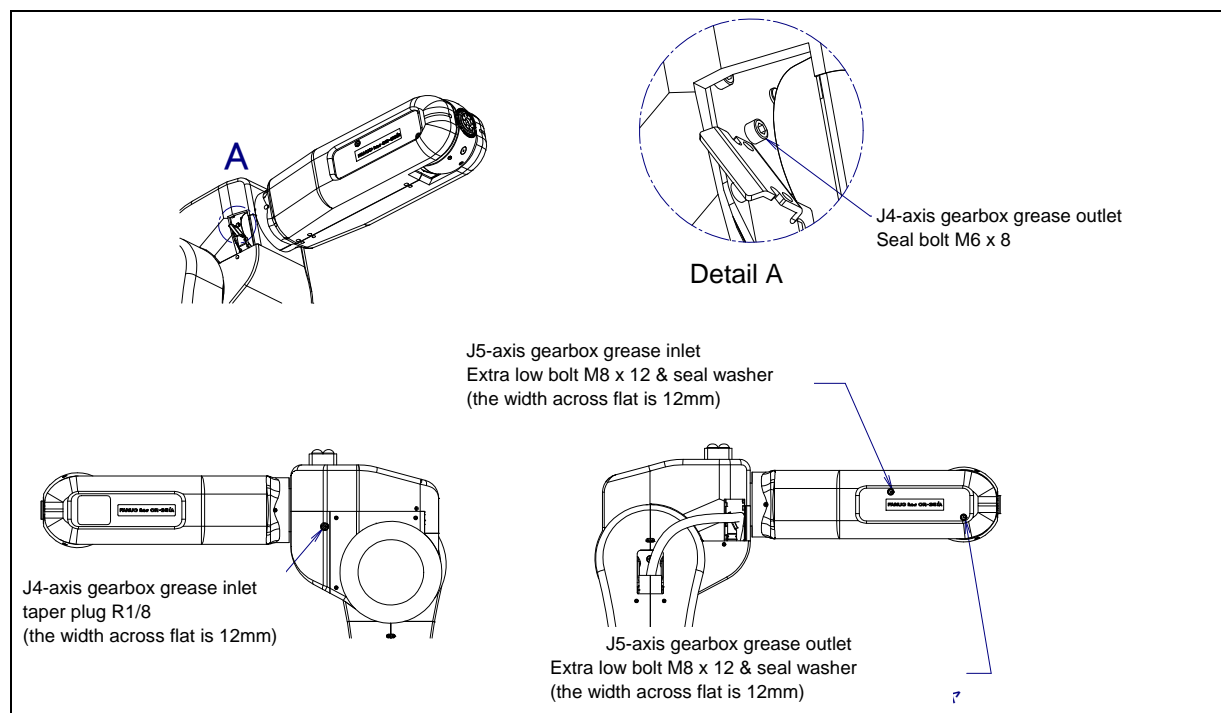

Fig. 7.3.3.2 Greasing point of J4,J5-axis gearbox
- 3 Remove the seal bolt. Hold the width across flat by a wrench etc. and do not loosen grease outlet parts when removing the seal bolt. (Fig. 7.3.3.2)